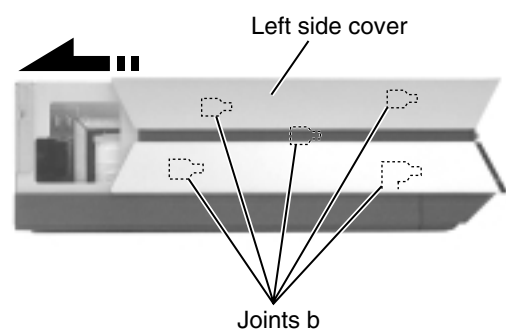

Fig.4
■ Removing the right and left side covers (See Fig. 4 and 5)